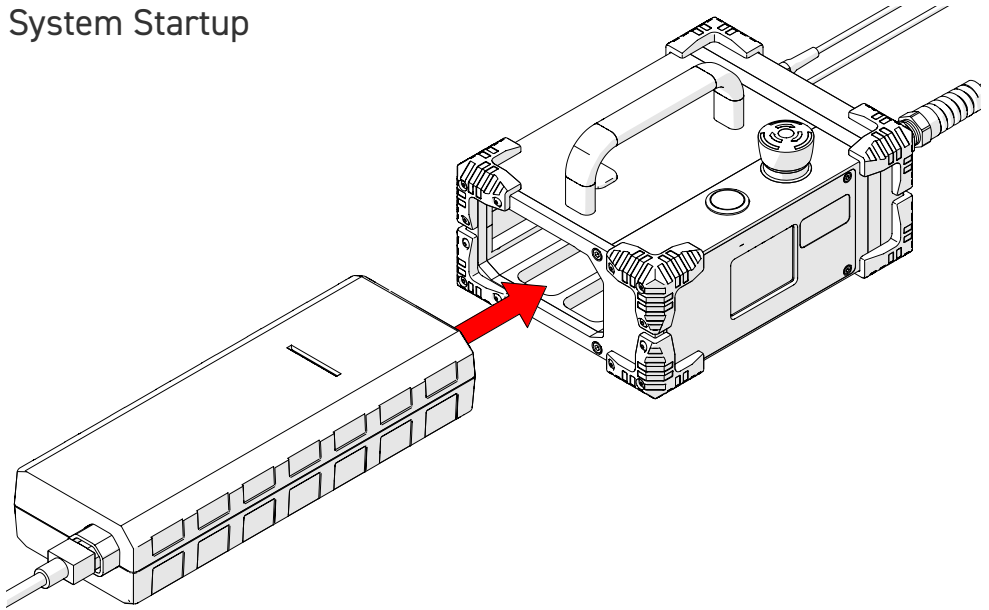

Fig. 174 - Insert power source
1. Insert power source (Fig. 174) into power controller dock.